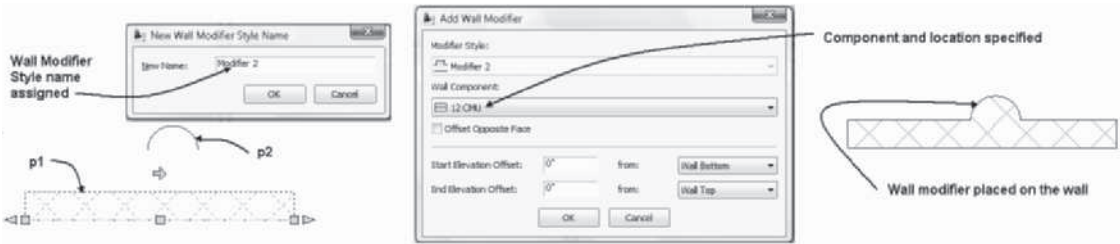

FIGURE 3.68 Creating a Wall Modifier style
- 2. Select the wall at **p1** as shown in Figure 3.68 to display the Wall tab and choose **Convert Polyline to Wall Modifier** from the Plan Modifier flyout of the Modify panel. Respond to the following command line prompts as shown below:
Select a polyline: (Select the arc at p2 as shown in Figure 3.68.)
- 3. Type a name in the **New Wall Modifier Style Name** dialog box as shown in Figure 3.68. Click **OK** to dismiss the dialog box and open the **Add Wall Modifier** dialog box.
A wall modifier is placed on the wall as shown in Figure 3.68. Note that the wall modifier is placed on the wall near the location where the polyline is drawn. You can specify the location of the wall modifier in the **Wall Modifiers** dialog box by selecting **Plan Modifiers** in the Advanced section in the Design tab of the Properties palette.